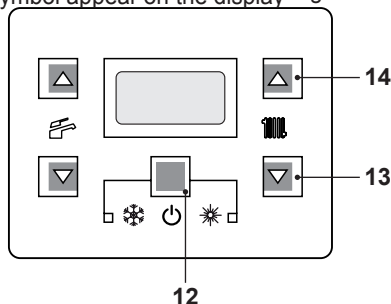

Fig. 2.5
- Press the key 12 for 2 seconds until the thermometer icon symbol appear on the display Fig. 2.5.
The output temperature of C.H. water can be adjusted by acting on keys 13 (reduce) and 14 (increase) (Fig. 2.5) from a minimum of about 25°C to a maximum of about 85°C. Press one of the two keys once to display the "set" value. Press again to access the modification.
However, if the ambient temperature is not comfortable, the flow temperature of the heating system can be increased or reduced by $\pm 15^\circ\text{C}$ by acting on keys 13 (reduce) and 14 (increase) (Fig. 2.5).